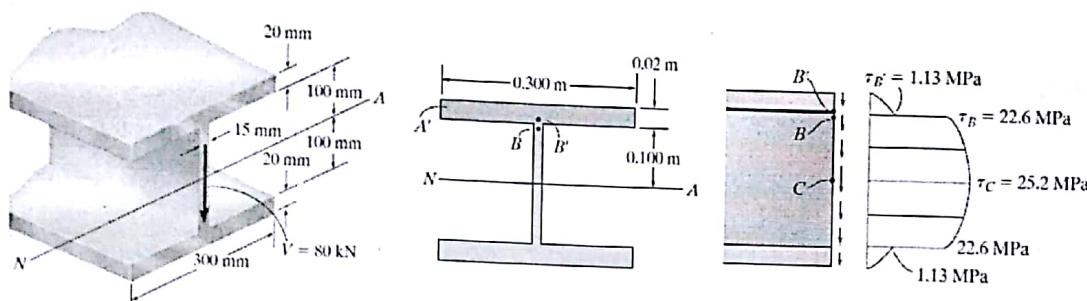

Fig. 1
- 1.** A steel wide-flange beam has the dimensions shown in Fig. 1. If it is subjected to a shear force of  $V = 80 \text{ kN}$ , plot the shear-stress distribution acting over the beam's cross-sectional area.